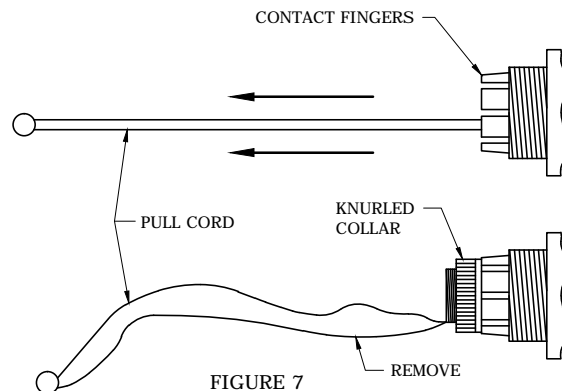

FIGURE 7
- STEP 7 CAREFULLY DRAW REFILL PULL CORD (WHICH COMES WITH FUSE) OUT THROUGH FUSE HOLDER, AGAINST SPRING TENSION, UNTIL CONTACT FINGERS OF FUSE HOLDERS LATCH BEHIND KNURLED COLLAR OF REFILL UNIT. RELEASE PULL CORD SLOWLY, PERMITTING COLLAR TO REST ON SPRING CONTACT FINGERS. REMOVE AND DISCARD PULL CORD. (SEE FIG. 7)